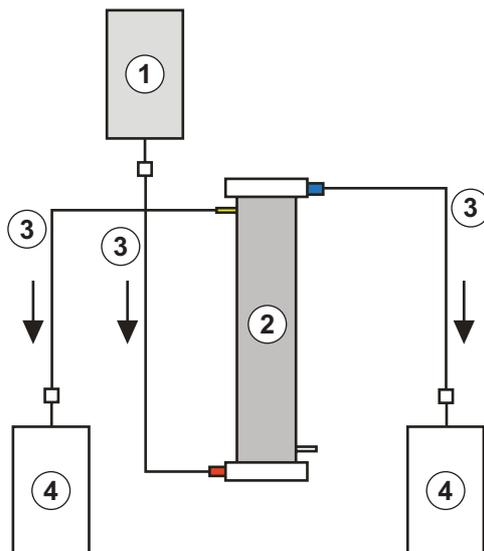

Fig. 10-8 Set-up for plasma filter rinsing
Materials: See legend to Fig. 10-8, 1.5 ml heparin solution (5000 IU/ml)
3. Attach the remaining connection lines and the collection bags as shown in Fig. 10-8 with the plasma and blood side of the filter and clamp the line on the plasma side.